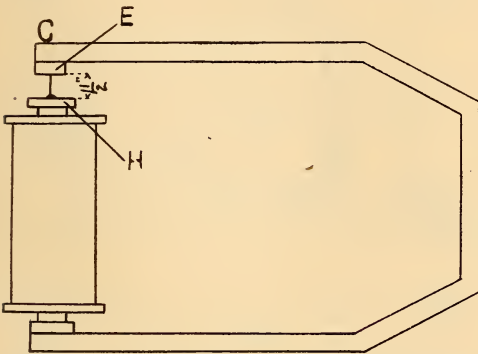

FIG. 2. COILS MOUNTED IN PERMANENT MAGNET.
The permanent magnet which comes with the bell ringer is removed, and one about 3-16 of an inch thick and one inch wide is substituted, being bent in the shape as shown in Fig. 2, with the top (C) clearing the magnet coils  $1\frac{1}{2}$  inches. The permanent magnet can usually be screwed to the same place as the one taken off. This permanent magnet can be easily made by bending to the desired shape a piece of the best hard steel and drilling the holes which will be necessary to mount it to the ringer coils.
of thin wire over it from end to end and pass the current from several dry cells through the wire, tapping the magnet occasionally, which causes the magnetism to saturate the rod more freely. The bending and drilling should all be done before the magnetization has taken place, as this operation would destroy the magnetism to a certain extent. In Fig. 2 is shown the plan of screwing the permanent magnet to the ringer coils. The pivot swing which originally supported the armature is now screwed to the under side of the upper end of the magnet, which is shown at (E). The armature is now placed in a vice and the two ex-